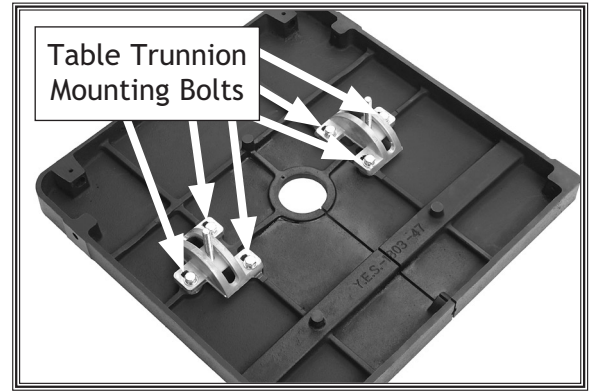

Figure 9. Table trunnion mounting bolts.
1. Place the bandsaw table upside down on a flat surface (preferably a workbench) and make sure the table trunnion mounting bolts (Figure 9) are tight.